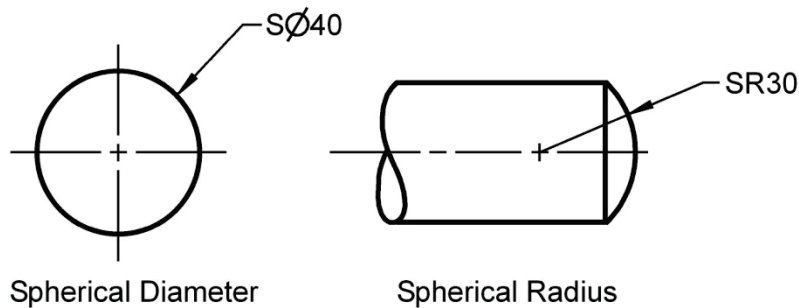

Figure 7.4-4: Dimensioning spherical features.
- e) A complete sphere is dimensioned by its diameter and an incomplete sphere by its radius. A spherical diameter is indicated by using the symbol “S \varnothing ” and a spherical radius by the symbol “SR”. Figure 7.4-4 illustrates the spherical diameter and spherical radius dimensions.